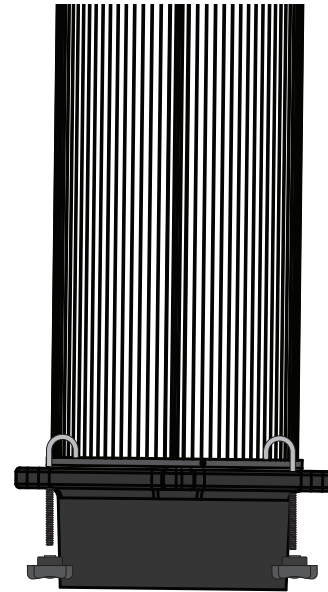

FIG. 15
Attach a Fine Dust Bin (O6) to each Filter (P) with four J-Bolts (O4) and four Thumb Nuts (O2) as in [FIG. 15].